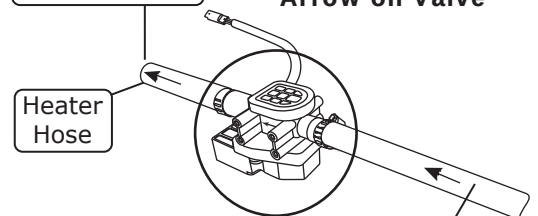

Figure 1
NOTE: Ensure proper flow direction through the heater control valve. The flow direction follows the molded arrow on the valve (See Figure 1, below).
1. Locate the 3 1/2" under dash louver bezel under the dash and drill (2) 1/8" holes.
2. Secure the 3 1/2" under dash louver bezel to the dash using (2) #10 x 1/2" sheet metal screws as shown in Figure 1, below.